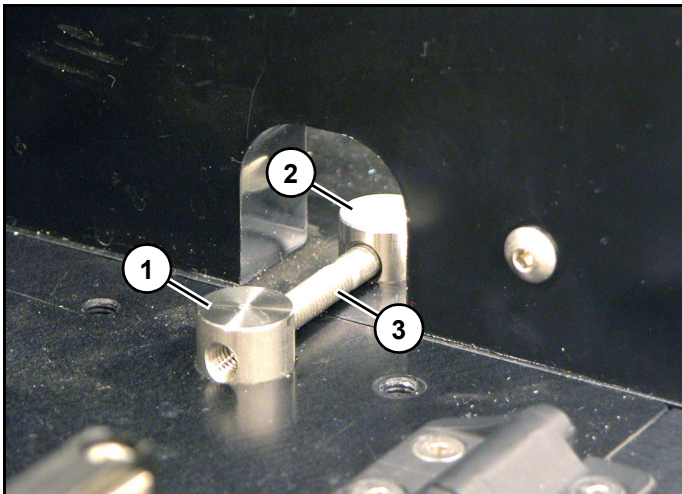

Figure 6
6. Two sets of clamps connect two modules together. Place first module clamp shaft (1) in the bottom holes with counter-bored clamp shaft (1) in the right hole and tapped clamp (2) in left hole. (Figure 6)
7. Using M5 hex wrench, slightly tighten clamp bolt (3) (Figure 6), but do not lock it down.